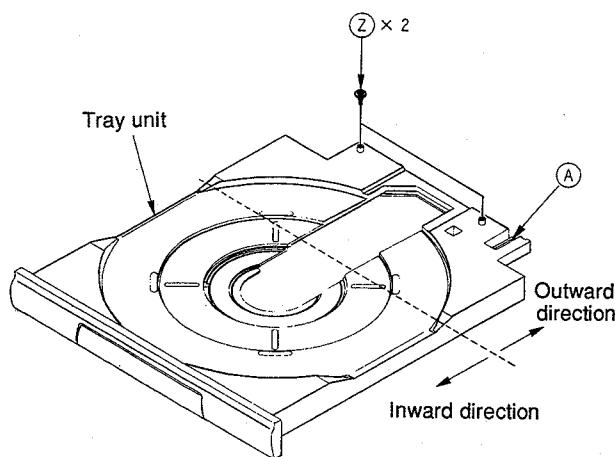
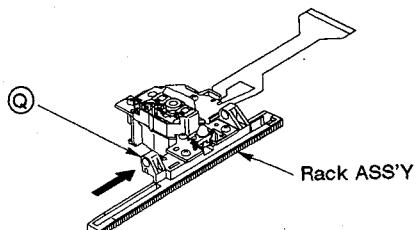

Fig. 2-1
Fig. 2-3
1. Remove the two fixing screws ⑦ (Fig. 2-1).
3. Pull out the tray unit while pressing the hook ⑧ (Fig. 2-1), located on the rear right side of the tray unit, to the left.
2. Make sure that the position of the lens in the pickup assembly is such that the lens stops outside the position indicated by the dotted line in Fig. 2-1.
When the lens stops inside the dotted line, slowly press the ⑩ portion of the rack assembly (Fig. 2-3) to move the lens in the pickup assembly until the lens is outside the position indicated by the dotted line in Fig. 2-1.
3. Slowly press the (Q) portion of the rack assembly (Fig. 2-3) to move the lens in the pickup assembly until the lens is outside the position indicated by the dotted line in Fig. 2-1.